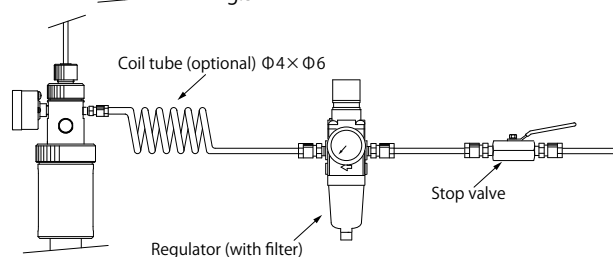

Fig.4
- Install a regulator (with filter) near the pressurized holder, and connect between the regulator and UCF-301 pressurized holder with a tube ($\Phi 4 \times \Phi 6$). See [Fig.4]